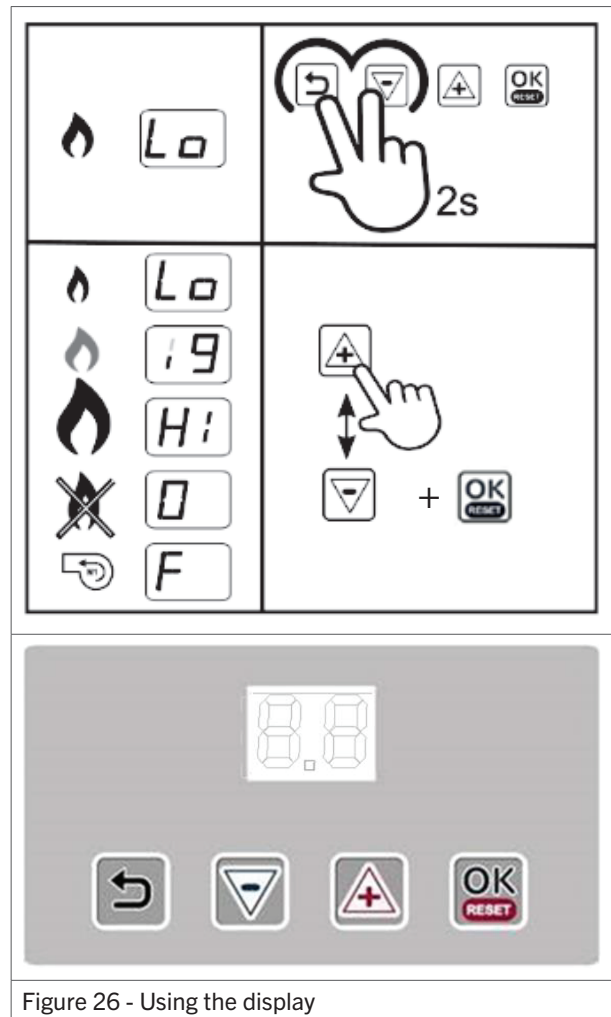

Figure 26 - Using the display
1. Press and hold the **Return** and (–) button for a few seconds (figure 26). The display will alternate between Lo and St. This means the heater will start up in Low fire.
2. Press the (+) and (–) buttons to toggle between Low and High fire (figure 26).